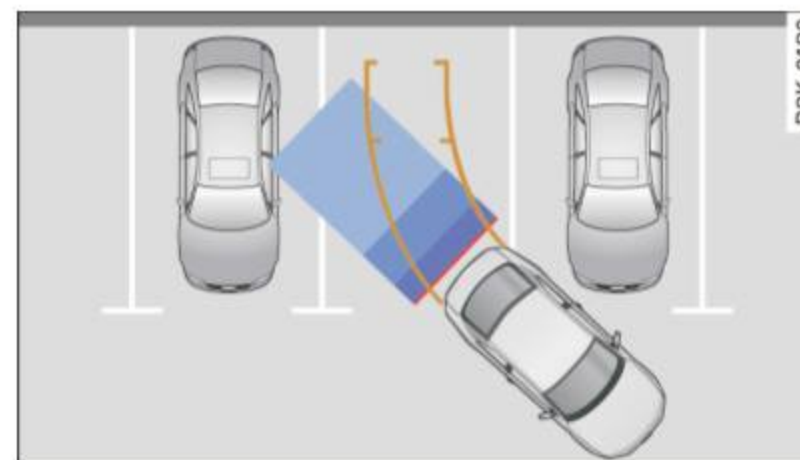
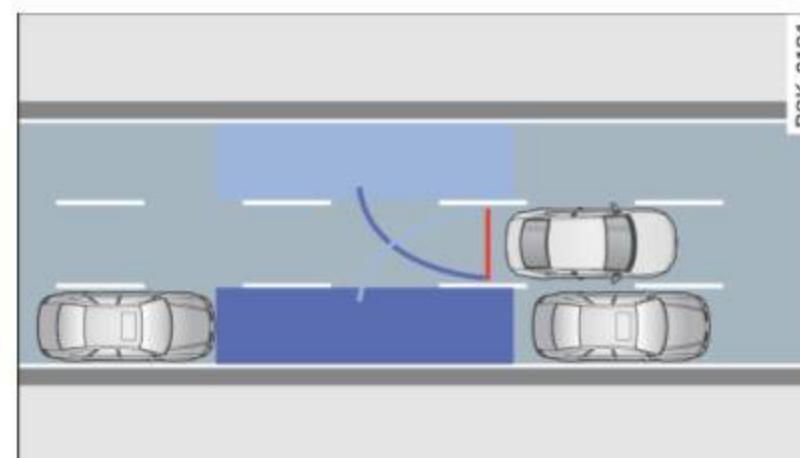
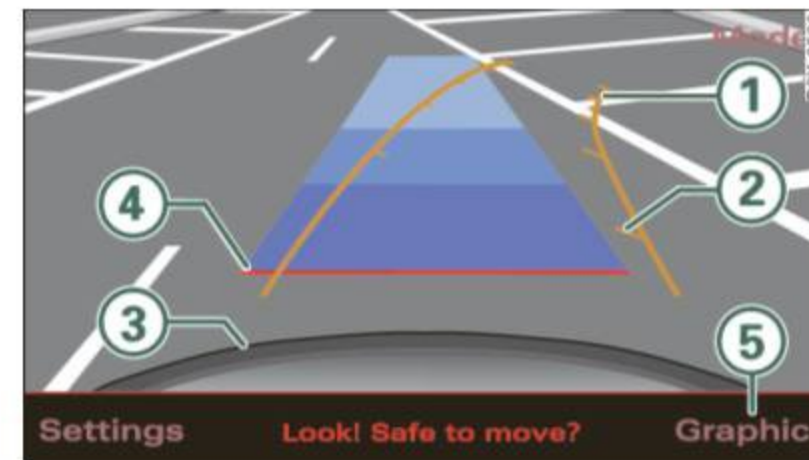

Fig. 145 View from top: Parking mode 1
Fig. 146 View from top: Parking mode 2
Fig. 150 MMI Display: Aiming at a parking spot
The rear-view camera picture ⇒ *page 141*, fig. 150 appears in the MMI Display as a mirror image. The rear-view camera picture has orientation lines and marked surfaces projected into it, as an aid to the parking process ⇒ *page 139*. The red line in the picture ⇒ *page 139*, fig. 145 or ⇒ *page 139*, fig. 146 indicates the collision area. Here, at the latest, you should stop backing up ⇒ .
You can choose between two modes to assist you with parking. For example, you can use "parking mode 1" when parking in a parking space or garage ⇒ fig. 145. When you want to park parallel to the edge of the street, select "parking mode 2" ⇒ fig. 146.
- Turn the steering wheel until the orange orientation lines  appear in the parking spot ⇒ fig. 150. Use the markings  to help you estimate the distance from an obstacle. Each marking corresponds to 1 meter. ►